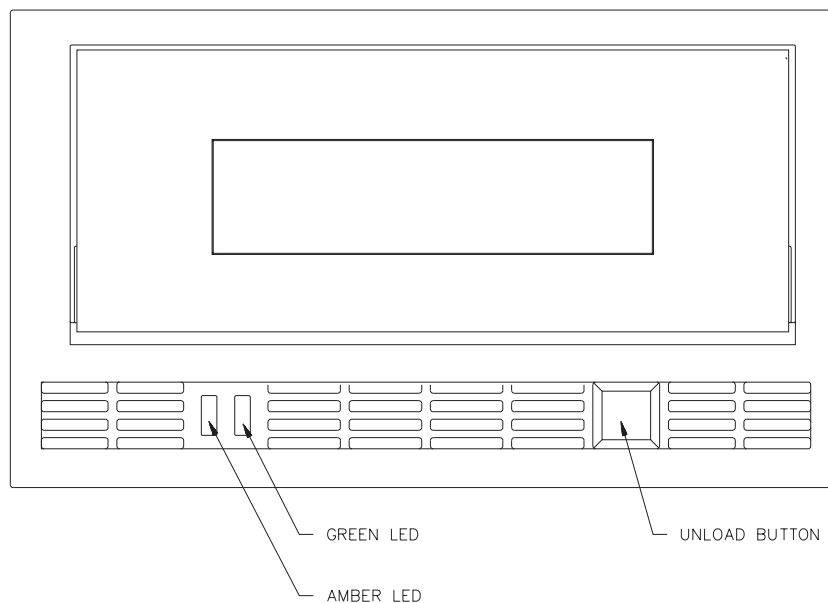

Figure 10-1 EXB-8200 Front Panel Controls and Indicators
All operator controls and indicators are located on the front panel of the EXB-8200, as shown in Figure 10-1.
2. If the EXB-8200's door is closed, press the unload button to open the door. Figure 10-1 shows the location of the unload button.